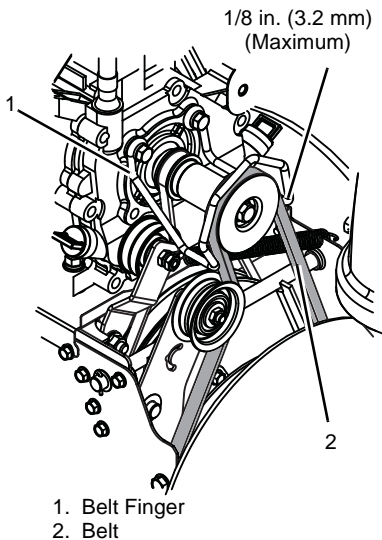

Figure 28
**IMPORTANT:** With the clutch lever engaged, the belt finger located opposite the belt idler must be less than 1/8 in. (3.2 mm) from the belt, but not touching the belt, or belt grabbing may occur causing impeller to rotate while the attachment clutch is disengaged (Figure 28).